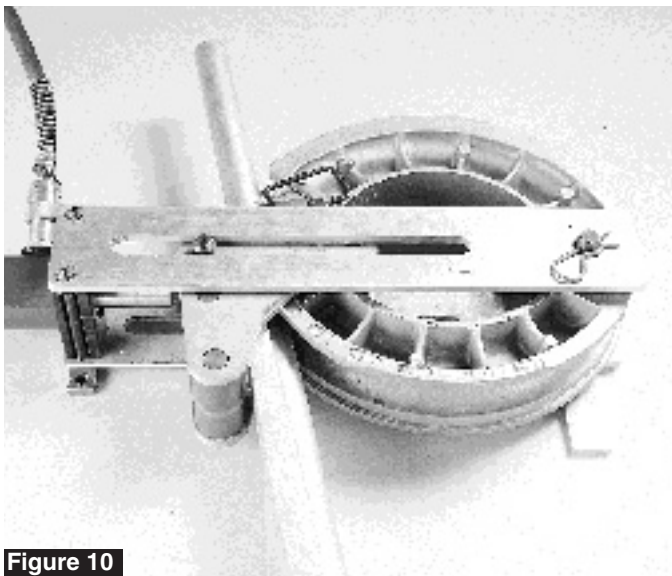

Figure 10
11. The U-strap must now be assembled to clamp the pipe to the bending shoe. Hydraulically retract the cylinder plunger until the U-strap hole in the shoe approaches the edge of the aluminum load arm (bender frame). The greatest clearance for easiest assembly exists when the U-strap hole is right next to the load arm edge. Assemble the correct size insert into the U-strap for the size pipe to be bent. (No insert is required for the 2" size.) Assemble the U-strap assembly over the conduit onto the shoe, and insert the U-strap into the aligned holes until it bottoms on the handle. Lay the handle flat against the U-strap and oriented away from the bender frame so that it will not contact the frame while bending (see Figure 10).